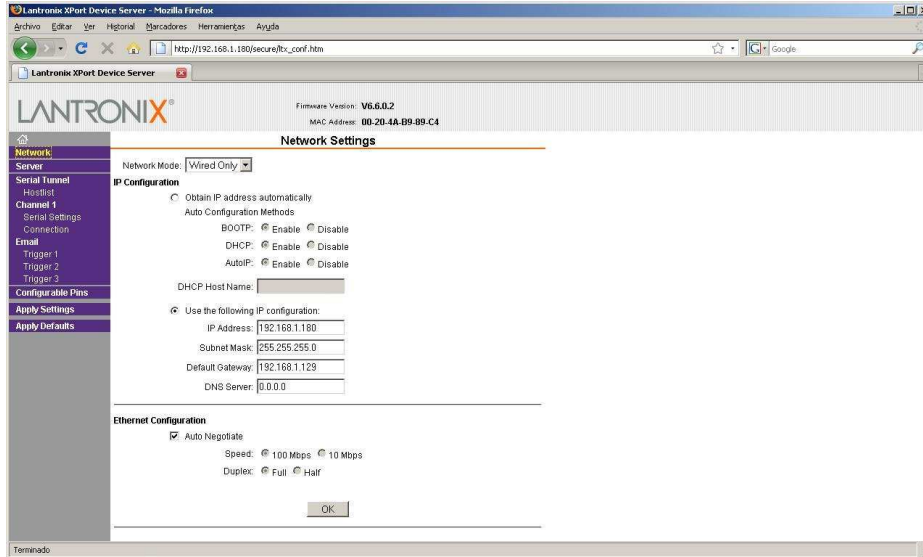

Figure 7.1B
5. You can see the main set up page on **Figure 7.1B**. On the left side, there is a menu with the set up options, choose the option "Network" and the page appears just like the **Figure 7.1B**, if the PAA29+ is a factory device, the data on the window will be the same ones as shown on the figure.